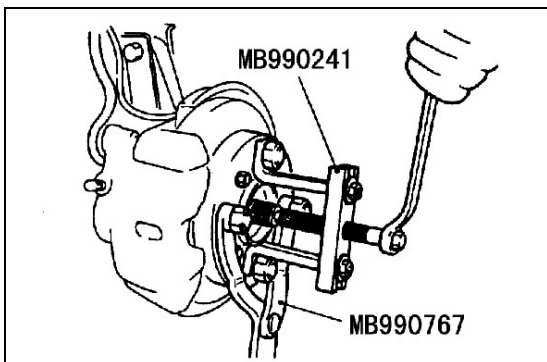

Fig.12-21
(2) Tie rod end disconnection(see Fig.12-21)